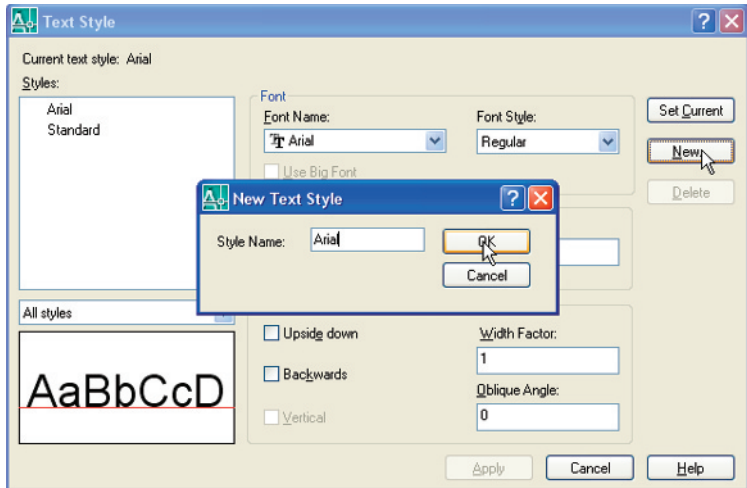

Fig. 4.9 The **New Text Style** sub-dialog
3. *Left-click* the **New** button and *enter Arial* in the **New Text Style** sub-dialog which appears (Fig. 4.9) and *click* the **OK** button.